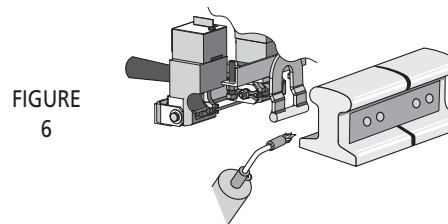

FIGURE 6
**WARNING:** The rail and mold must both be warmed to drive off moisture. Failure to observe this may result in weld spatter with the potential for serious burn injury, and a less than optimum bond with excessive porosity. **See Figure 6.**